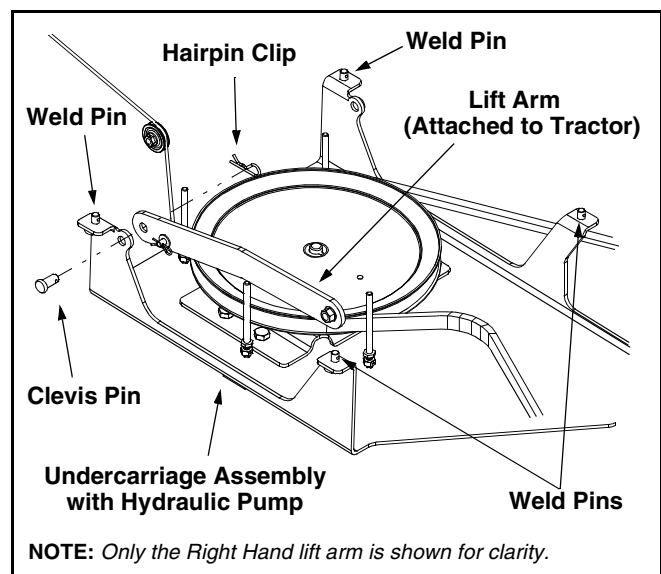

Figure 6
- Remove the two hairpin clips (and the clevis pins they're securing) from the rear of the undercarriage assembly. See Figure 6. Also remove the four hairpin clips and flat washers from the four weld pins found on the top side of the undercarriage assembly. Save this hardware, as it will be reinserted in the following steps.
- Reinsert the clevis pin removed earlier from the right side of the undercarriage assembly into aligning holes in both the undercarriage assembly and the tractor's right lift arm. See Figure 6.
- Pivot the front portion of the undercarriage assembly upward so that the weld pins (Refer to Figure 6) located on the top side of the undercarriage align with the holes found in both the left frame rail and the right frame rail of the tractor.
IMPORTANT: Make certain that the belt is routed to the OUTSIDE of the front left weld pin as illustrated in Figure 6 before proceeding on to the next step.